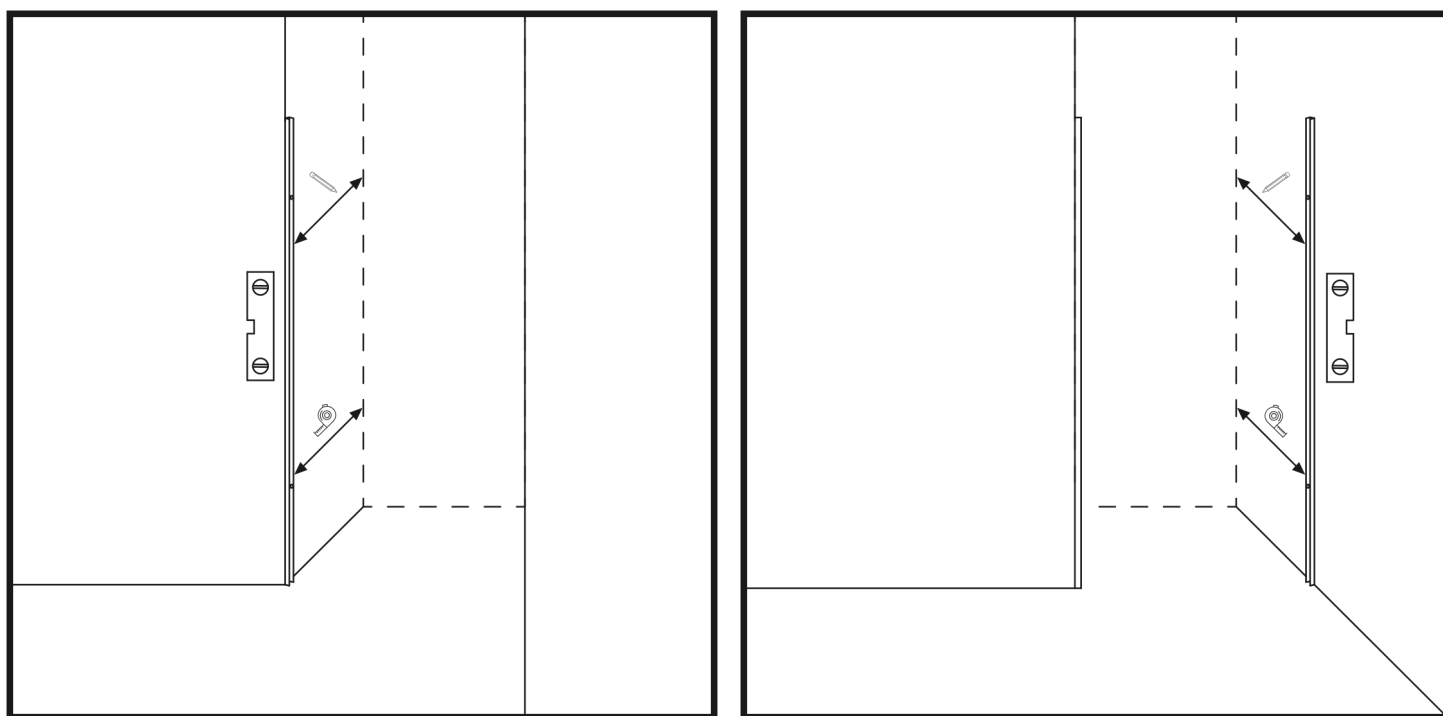

Figure 1
1. Start the installation by installing the hinge bar profile of both doors to the wall. Repeat the following steps on both sides. (Figure 1)